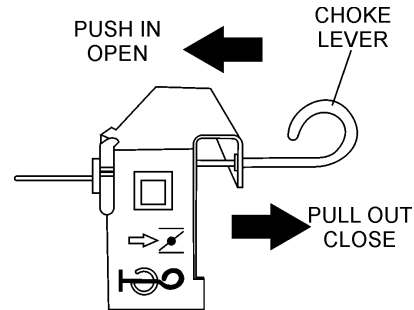

Figure 15. Choke Lever
2. Place the choke lever (Figure 15) in the **CLOSED** position if starting a cold engine.
3. Place the choke lever (Figure 15) in the **OPEN** position if starting a warm engine or the temperature is warm.
- If the engine has started, slowly return the choke lever (Figure 15) to the **OPEN** position. If the engine has not started repeat steps 1 through 6.